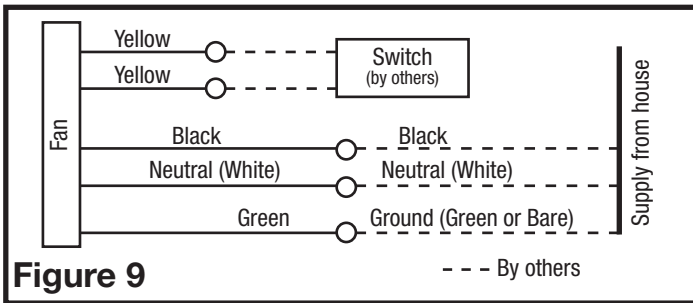

Figure 9
2. **Continuous Ventilation:** For two speed fans wired for continuous ventilation, connect the White wire of the fan to the White (Neutral) wire from the power source. Connect the ground wire from the house to the green wire from the fan housing. Run 2 wires from a properly grounded wall switch (not included) to the fan. Connect the Black wire of the fan to the Black wire (Hot) from the power source. Connect the Hot Yellow wire from the fan to the input of the switch. Connect the second Yellow wire from the fan to the output side of the switch. Closing the switch will change from normal to high speed. (Figure 9).